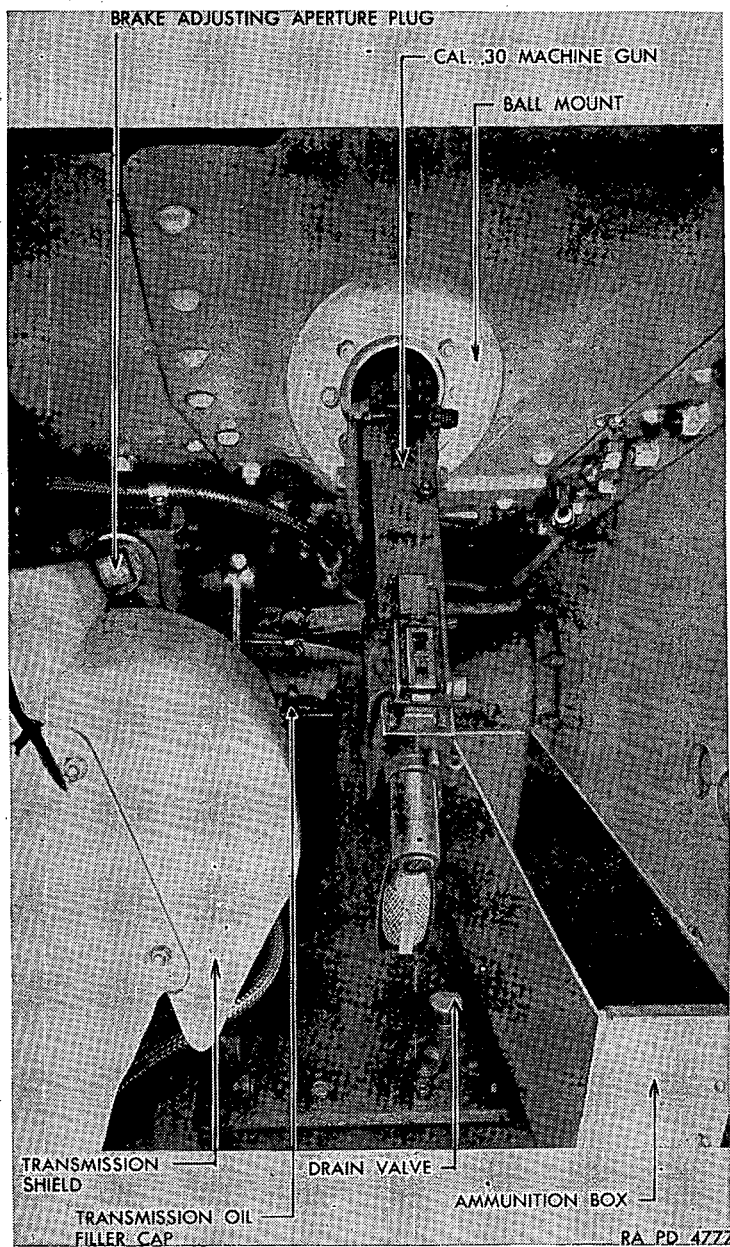

FIGURE 17.—Bow gunner's compartment.
c. *Bow gun mount.*—A 3½-inch ball mount in the bow gunner's compartment mounts a caliber .30 machine gun and is operated by the bow gunner (fig. 17). The gun is manually fired by a trigger, and elevation and traverse are manually controlled by the gunner.